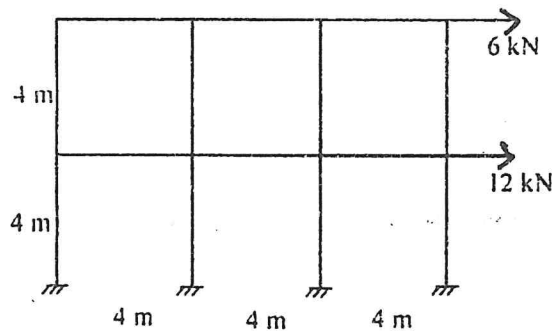

Fig. 8
5. (a) Using Portal Method, analyze the multi-storied frame for the lateral loads shown in Fig. 8. Furthermore, draw shear force diagram, bending moment diagram, and axial force diagram for columns and beams.